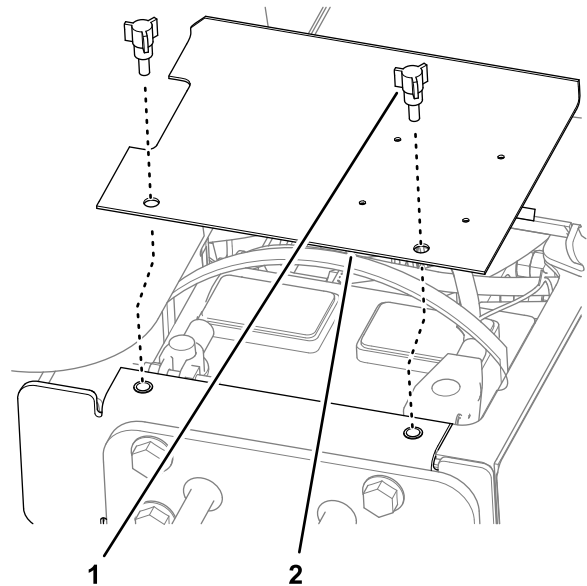

Figure 2
1. Loosen the 2 knobs that secure the outer battery cover to the frame of the machine, and remove the cover (Figure 2).